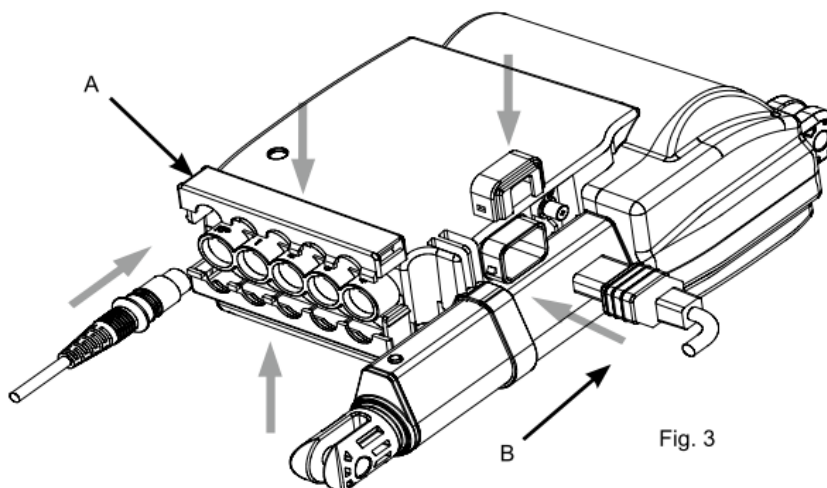

Fig. 3
4.2 Installation of LAK4D Fixer: After inserting connectors of an actuator and a key box , vertically insert back the fixer on LAK4D controller (A) , and then fasten the up fixer and down fixer on LAK4D controller (Fig. 3). Before inserting the main power cord , rotate out the locker (B) along the arrow direction to insert power cord (Fig. 3) and then pull it back (Fig. 3) along the arrow direction.